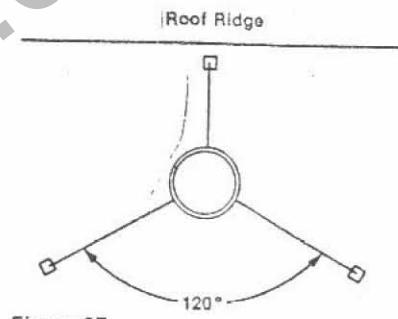

Figure 37
Note: If chimney extends more than 8 feet above roof line, guy wires are also recommended. Use three (3) guy wires, attach to locking band assembly, extend and secure to roof in a triangular pattern (Figure 37). Guy wires not supplied by Superior.